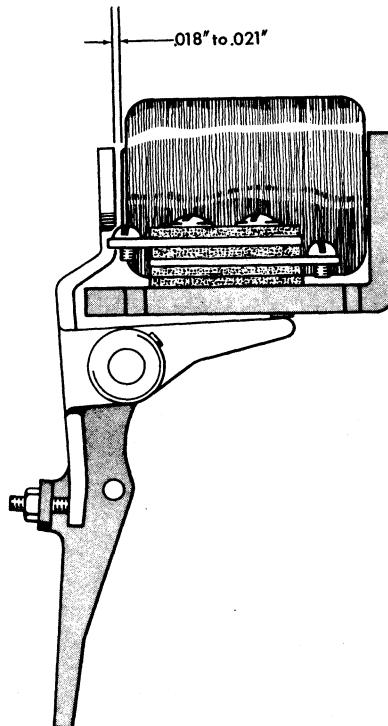

Figure 114. Control Magnet
- Form control magnet armature assembly to obtain .018-inch to .021-inch clearance between armature and core when magnet is de-energized (Figure 114).